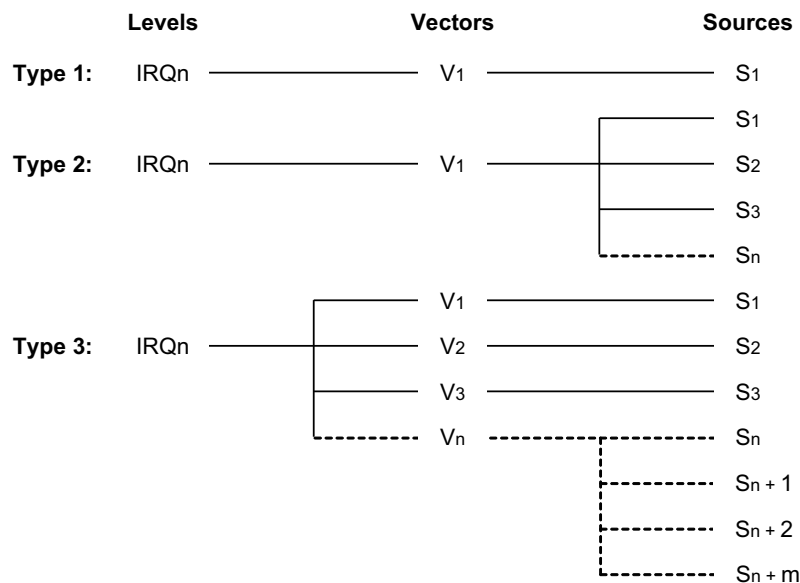

Figure 45. S3F8 Series Interrupt Types
In the S3F8S45 microcontroller, all three interrupt types are implemented; see Figure 45.
► **Note:** In Figure 45, the number of S_n and V_n values is expandable. In the S3F8S45 implementation, interrupt types 1 and 3 are used.